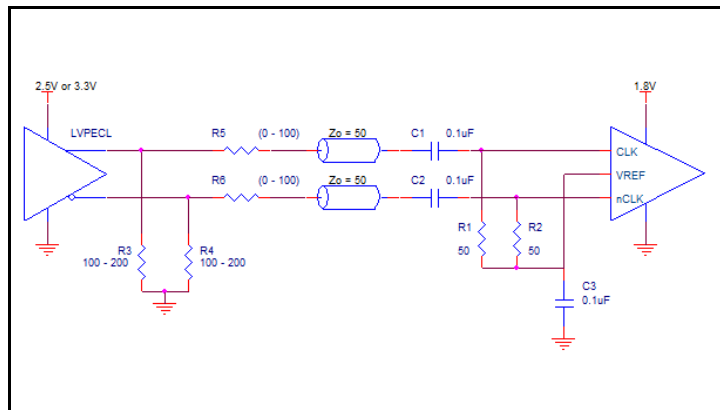

Figure 2B. Differential Input Driven by an LVPECL Driver - AC Coupling
1.  $V_{REF}$  specification is applicable to the AC-coupled input interfaces shown in *Figures 2B and 2C*.